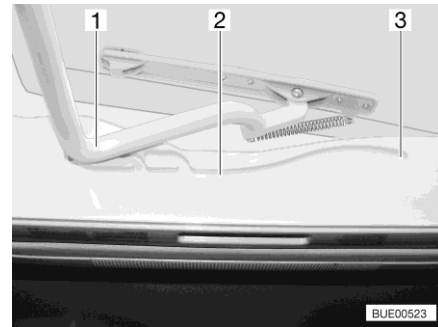

Fig. 115 Guide (Heki skylight)
- Pull the bar (Fig. 115,1) in the guides (Fig. 115,2) to the rearmost position (Fig. 115,3).
- Use both hands to push the bar (Fig. 115,1) slightly upwards.
- Pull the bar in the guides (Fig. 115,2) to the desired position.